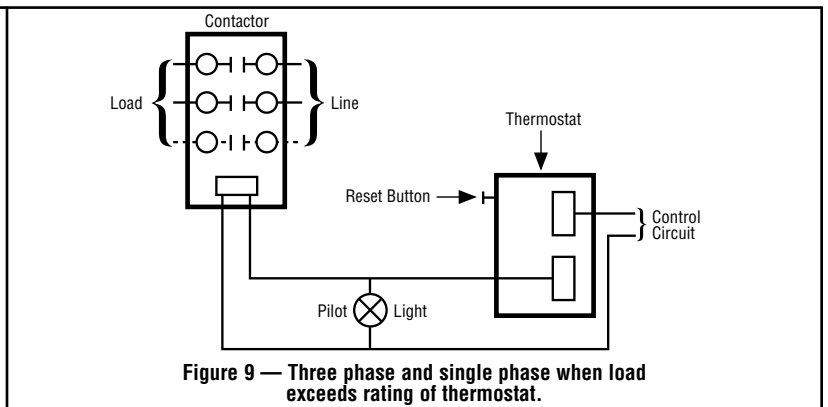

Figure 9 — Three phase and single phase when load exceeds rating of thermostat.
8. **Note:** If load amperage or voltage rating exceeds switch rating, a contactor must be used. Contactor and wiring to be supplied by customer. (See Figure 9.)